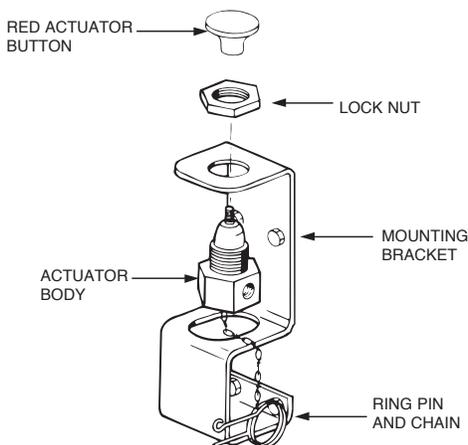

FIGURE 6-21
3. Unscrew the RED actuator button from the actuator stem and slide actuator body through mounting hole on bracket. See Figure 6-21.
4. Rotate actuator body for desired location of actuation piping outlet connection. Screw locknut firmly onto actuator body and insert ring pin. Reassemble button onto the stem. See Figure 6-21.